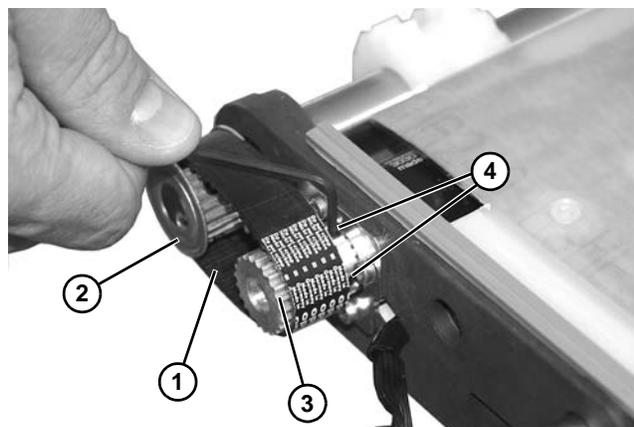

Figure 75
3. Slip timing belt (Figure 75, item 1) over driven pulley (Figure 75, item 2) and slide drive pulley (Figure 75, item 3) through timing belt onto gearmotor shaft.
4. Tighten drive pulley set screws (Figure 75, item 4) on gearhead shaft, making sure one set screw is over flat on shaft, and drive pulley is aligned with driven pulley.